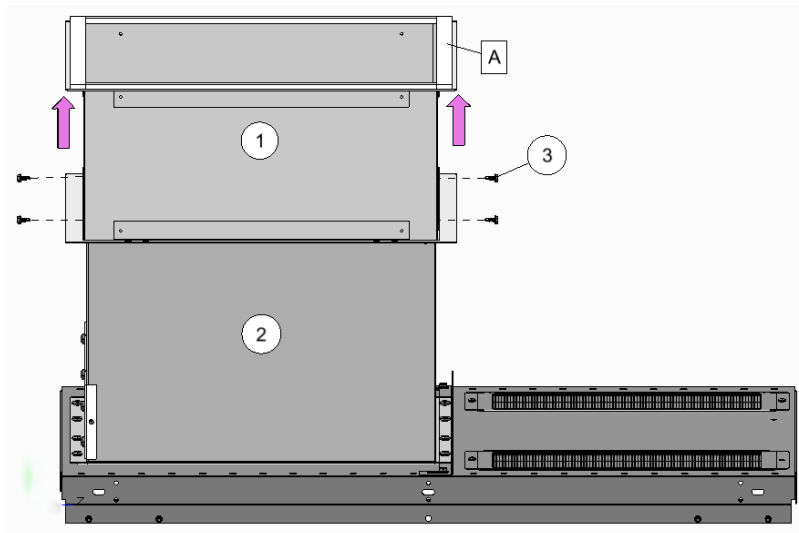

Figure 7: Abut Chimney Top to Ceiling and Secure in Place
Refer to item (3) in Figure 7.